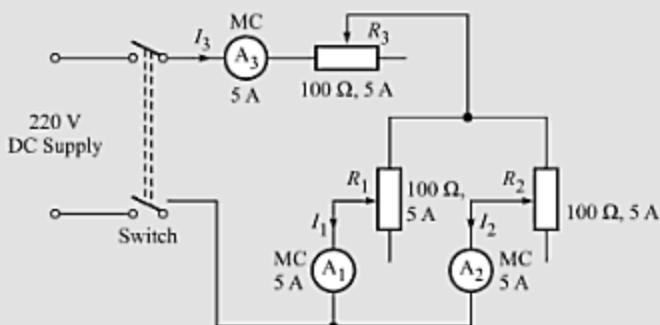

Fig. 3.83
**Circuit Diagram** The circuit diagram is shown in Fig. 3.83.
1. Make connections as given in Fig. 3.83.